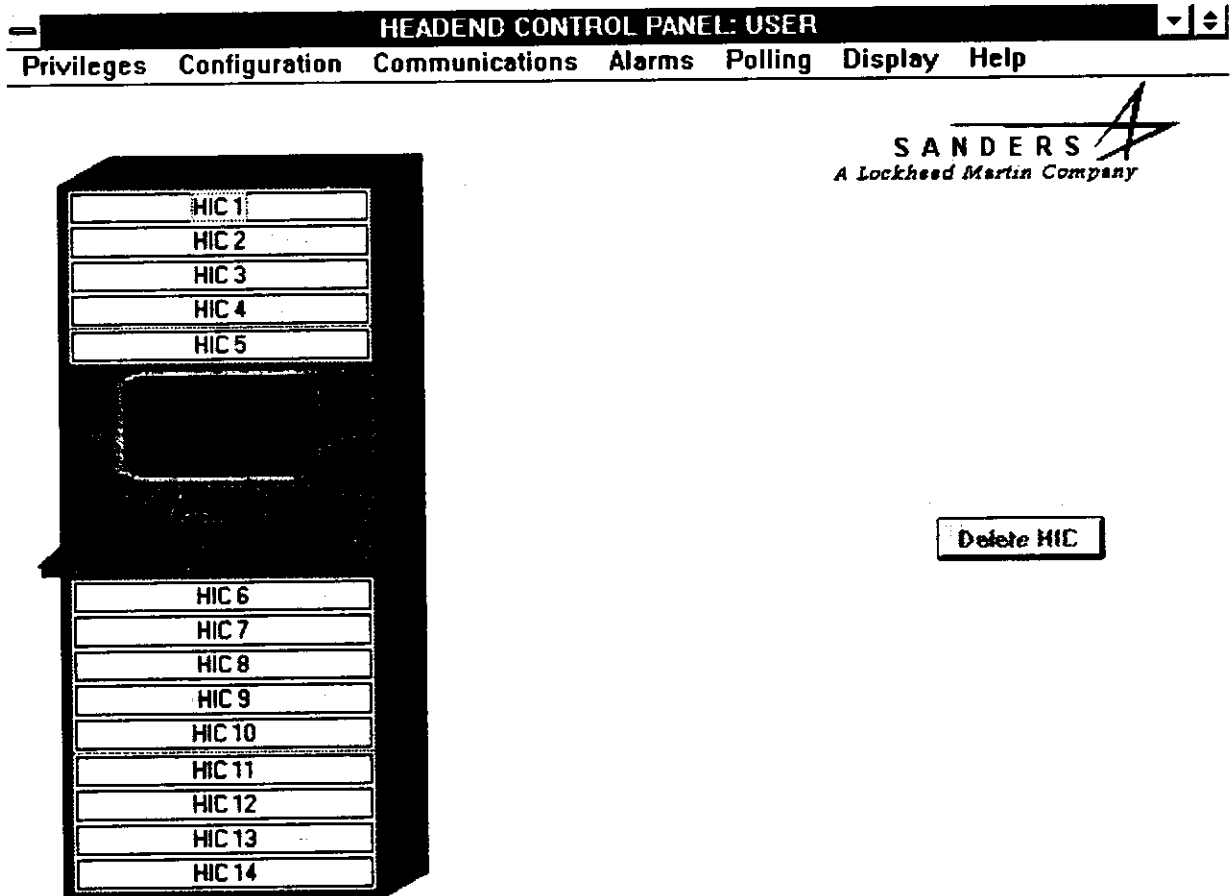

Figure 2-17. HEADEND CONTROL PANEL: USER Dialog
- d. Observe that the HEADEND CONTROL PANEL: USER dialog (Figure 2-17) appears on the monitor.